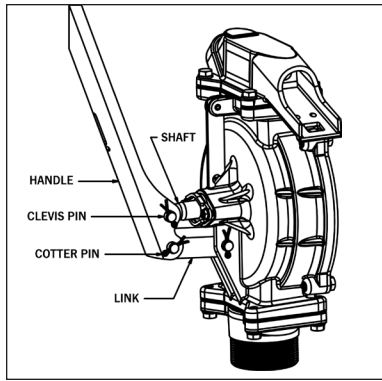

Figure 1
3. With the open side of the handle facing the pump, line up the free end of the link between the bottom set of holes on the handle. Insert a clevis pin through the holes and secure with a small cotter pin. (Figure 1)